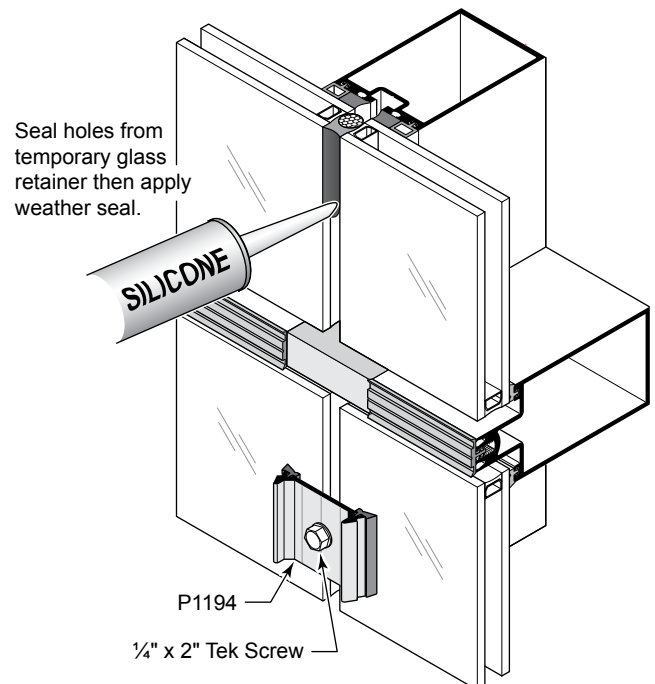

Fig. 47.3
- F. For SSG vertical applications, where structural silicone is applied from interior, hold the glass in place at the vertical with P1194 temporary glazing clips and a 1/4" x 2" TEK screw. Tape off side of SSG vertical and glass prior to applying structural silicone. After structural silicone has cured per silicone manufacturer's recommendations, remove P1194 temporary glazing clips, seal hole in the SSG vertical from the P1194 screw and apply a weatherseal between the lites of glass. See **Fig. 47.3** for optional exterior applied structural silicone.